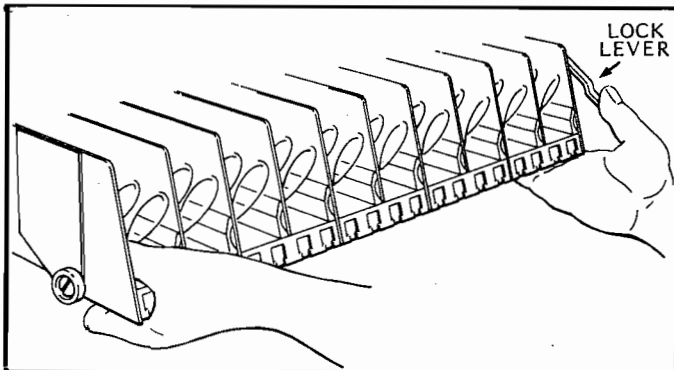

Figure 1. MOVING SHELF TO LOADING POSITION.
4. **LOADING SNACK SHELVES:** Open door to full open position, push down on white plastic lock lever (Figure 1) on right side panel by shelf to unlock shelf, holding lever down. Grasp the shelf under both front corners (see Figure 1), lift front of shelf slightly and pull forward until shelf reaches its stop. The top two and bottom two shelves tilt down (do not drop) to make loading easier. The center shelf remains horizontal. **Only one product shelf should be in the loading position at a time.** When returning a shelf, be sure the shelf is in its full home or vend position. Begin loading with the top shelf. Move it to the loading position. The height spacing for items is greatest in this shelf and the tallest bagged items should be placed there. Soft items, such as pastry, pies, etc., should be placed in the lowest snack shelf, making the drop distance as short as possible.
- a. Lift up and push the lock lever toward the back of cabinet. See figure 1.